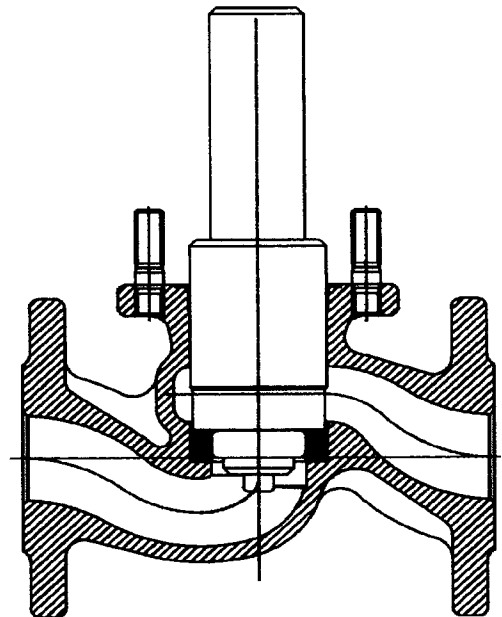

Fig.4
- Mount bottom valve ring using mounting tool (see Figure 4')